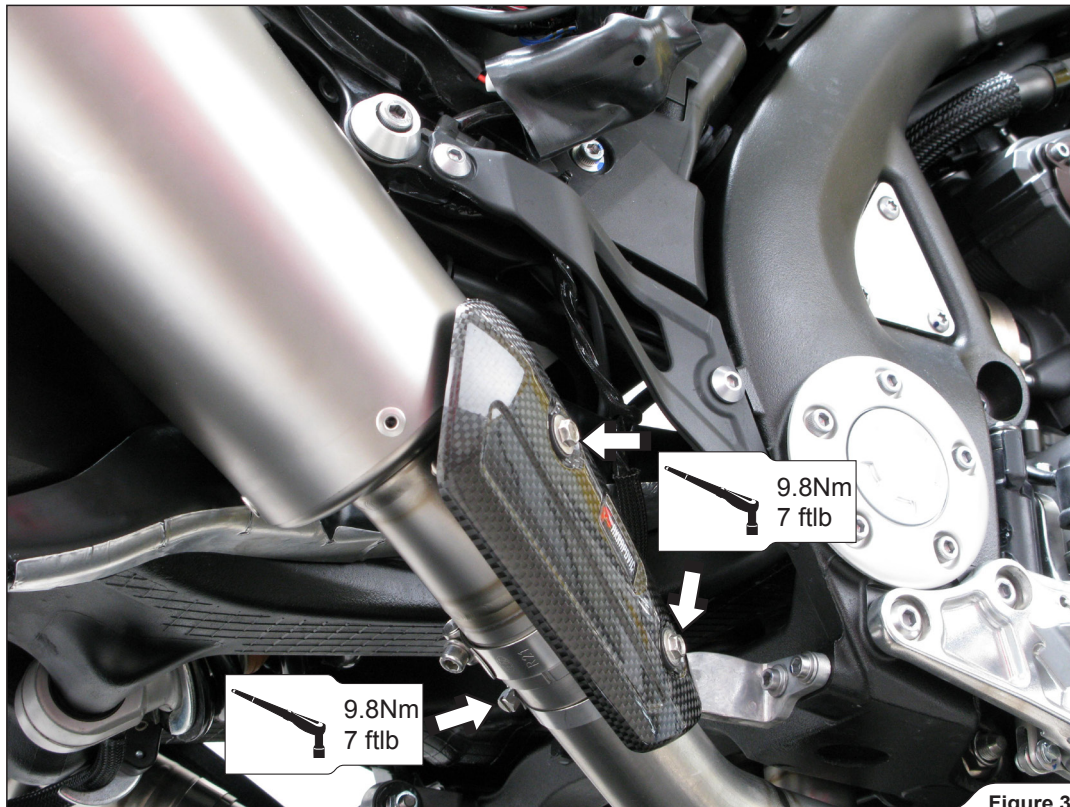

Figure 37
12. **For BOTH SLIP - ON sistem:** tighten the heat shield metal clamp and the heat shield's bolts (**Figure 37**). Perform the process on both sides of the motorcycle.